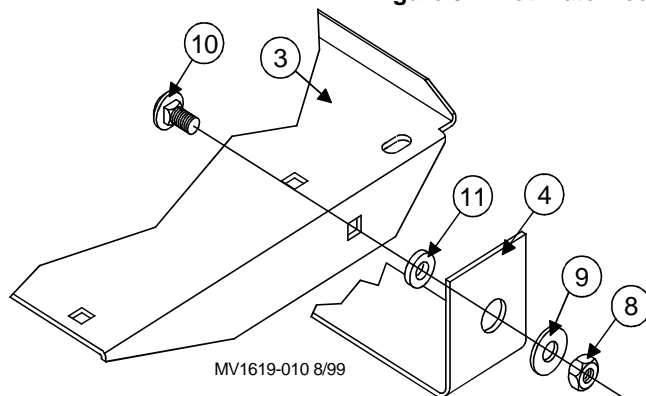

**Figure 6. Pivot Plate Mounting Bolts**
5. Secure the Pivot Plate Mounting Bracket, **see Figure 6**, on the new U-Motor Mount Bracket using the two carriage bolts, and Lock Nuts provided.
8. Mount the Motor to the Pivot Motor Mount Plate by using the supplied carriage bolt with the heads coming up from the bottom and flat washer, lock washer, and 5/16"-18 hex nut on top, **see Figure 6**.